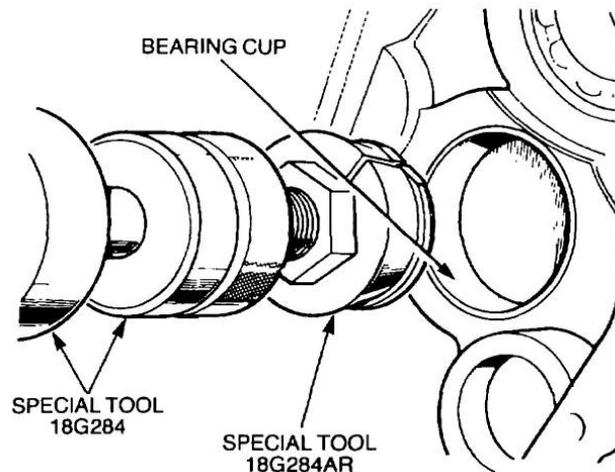

Figure 176 Removal of the Countershaft Rear Bearing Cup
- oo.** Using a suitable press, remove the countershaft front bearing cup from the transmission bearing plate. Using special tools 18G284 and 18G284AR, remove the countershaft rear bearing cup (Figure 176). Discard the bearing cups.